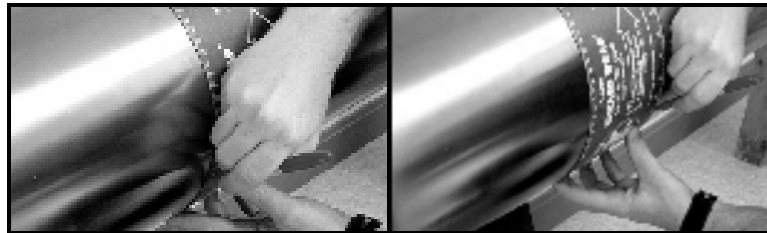

Figure 14: Measuring and Marking Circumference Lines
3. Measure the outside diameter (OD) of the pipe using a tape measure or the supplied layout wrap. Using the entire layout tape, mark two circumferential lines along the edges of the wrap, as shown in Figure 14 below.